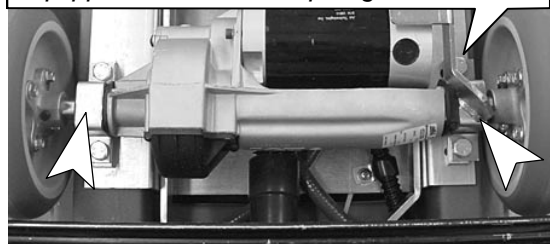
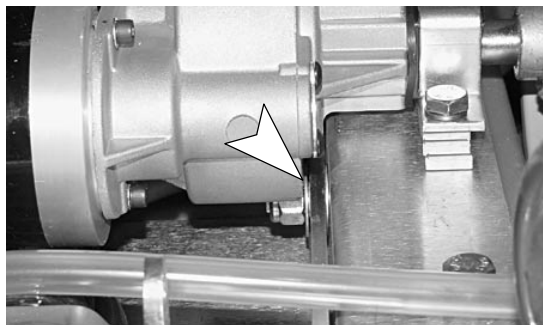

Fig. 12
Fig. 13
5. Install the new transaxle on machine using existing hardware (Figure 12). If needed, use soapy water to slide brackets over rubber mounts. Before securing the transaxle brackets, make sure the transaxle is not resting on the pivot arm washer (Figure 13). Remount the old wheels on the transaxle.